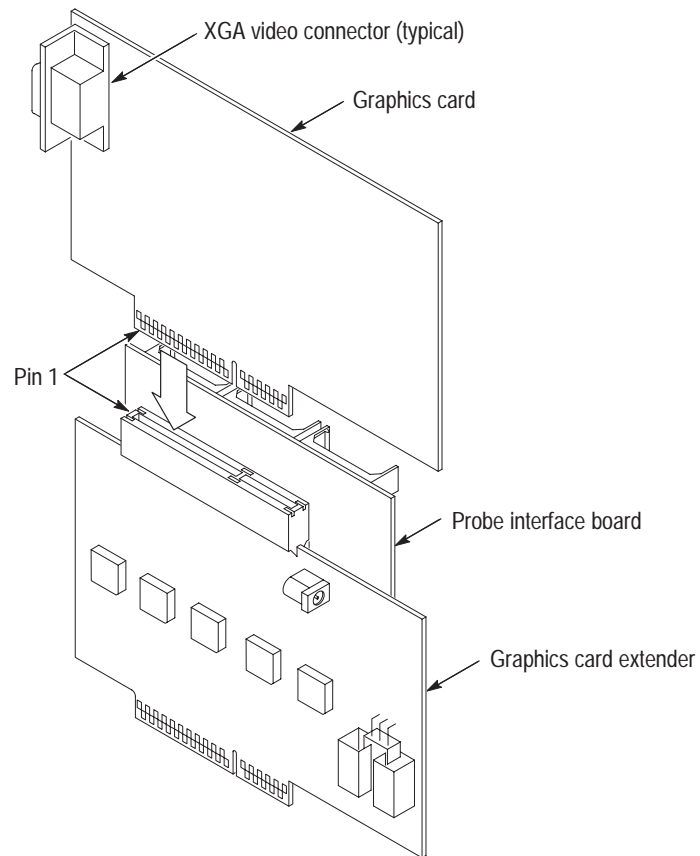

Figure 1-2: Connecting the graphics card to the probe adapter
6. Plug the graphics card into the probe adapter as shown in Figure 1-2 on page 1-5.